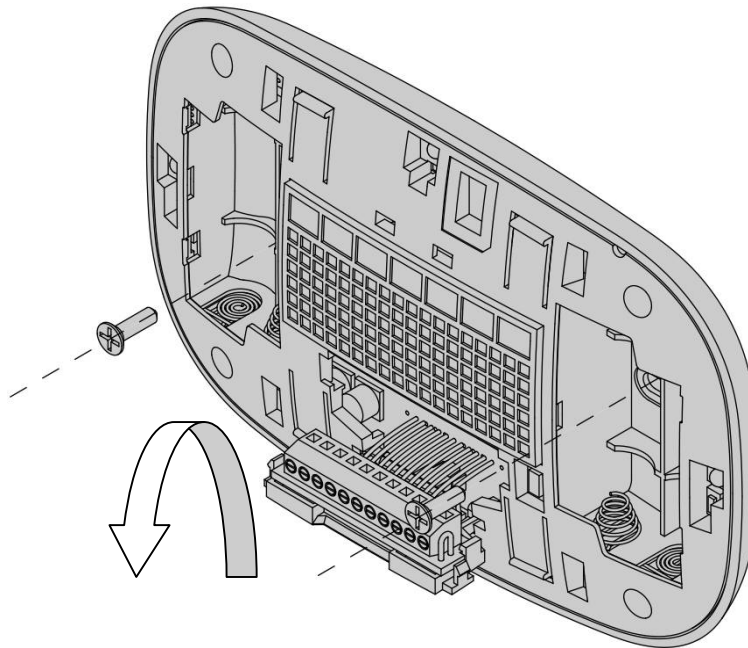

Figure 3. Open the terminal and mount into the wall
3. Open the terminal block of the ZTS-500US then insert all necessary wires through the back housing (Figure 3).
4. Fasten the back housing to the wall using the two included mounting screws. Insert the screws through the mounting holes in the housing and into the wall anchors (Figure 3).